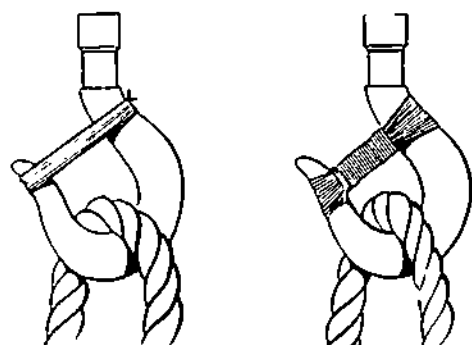

Figure 7-80. Mousing Hooks
- 2 **Mousing Hooks** No open hook shall be used in any situation where accidental dislodgement of the load could cause a risk of injury to workers. In these circumstances a safety hook or a shackle must be used, or if permitted by government regulations, mousing as shown in Figure 7-80 could be applied.